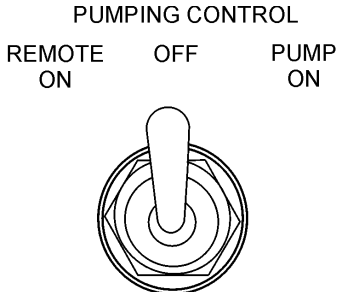

Figure 17. Pumping Control Switch (OFF)
2. Place the pumping control switch (Figure 17) in the OFF position.
1. Place the pumping control switch in the OFF position (Figure 17).